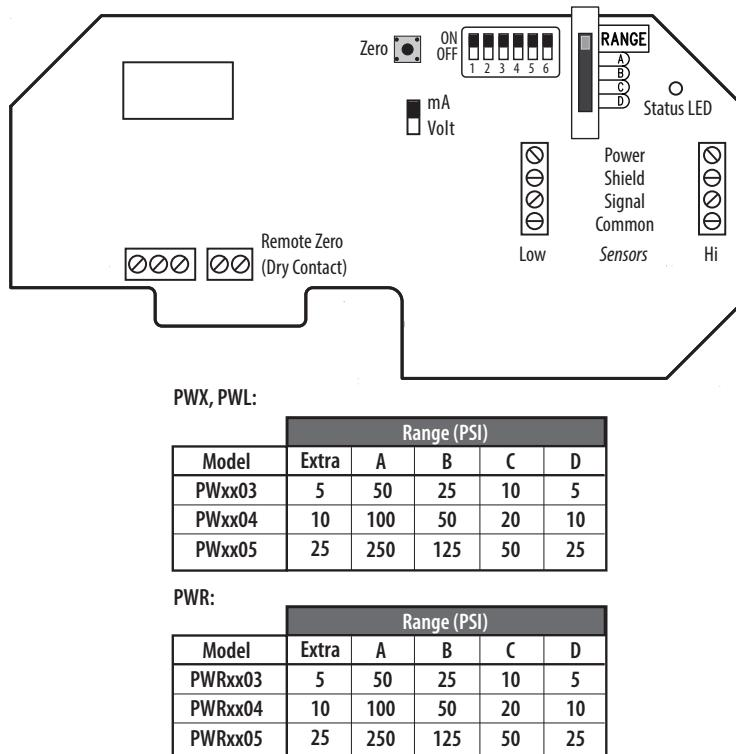

Figure 1: PW / PWR Configuration for 5-Position Switch
2. Look at the range selection switch. The switch body will extend slightly beyond the edge of the PCB (see Figure 1).